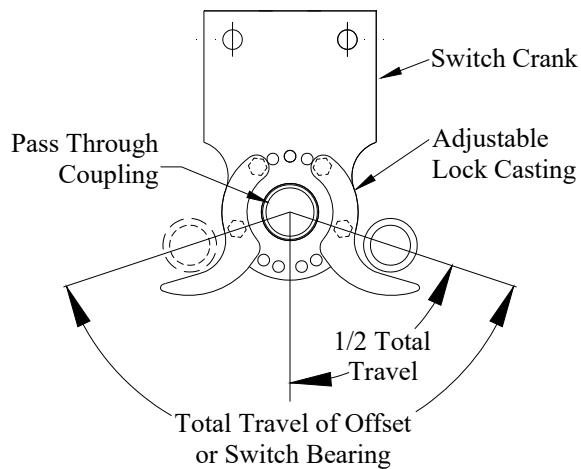

Fig. 11 Operating Handle Lock Plate
- The lock plate assembly (Fig. 11) consists of two castings, mounted on the pipe guide plate, which can be easily adjusted in an arc to provide the required rotation. These act as locks for the manual operating handle when it is dropped from the operating position. The handle must be raised to a horizontal position for operation.
- With the switch in the fully closed position, set the handle clamp so its set screws are 4 inches above the lock plate and its vertical centerline is at or near as possible to the closed position, see Fig. 11.